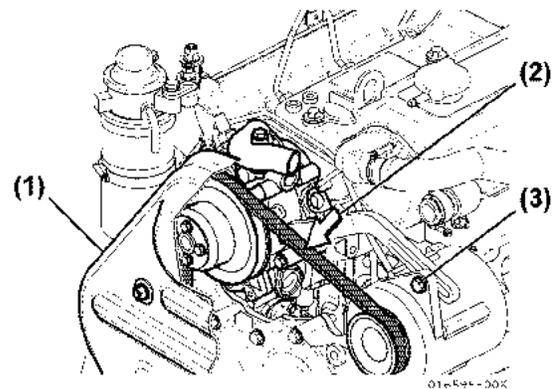

Figure 7-37
2. Remove belt cover (Figure 7-37, (1)).
4. Loosen adjusting bolt (**Figure 7-37, (3)**) to remove coolant pump belt.